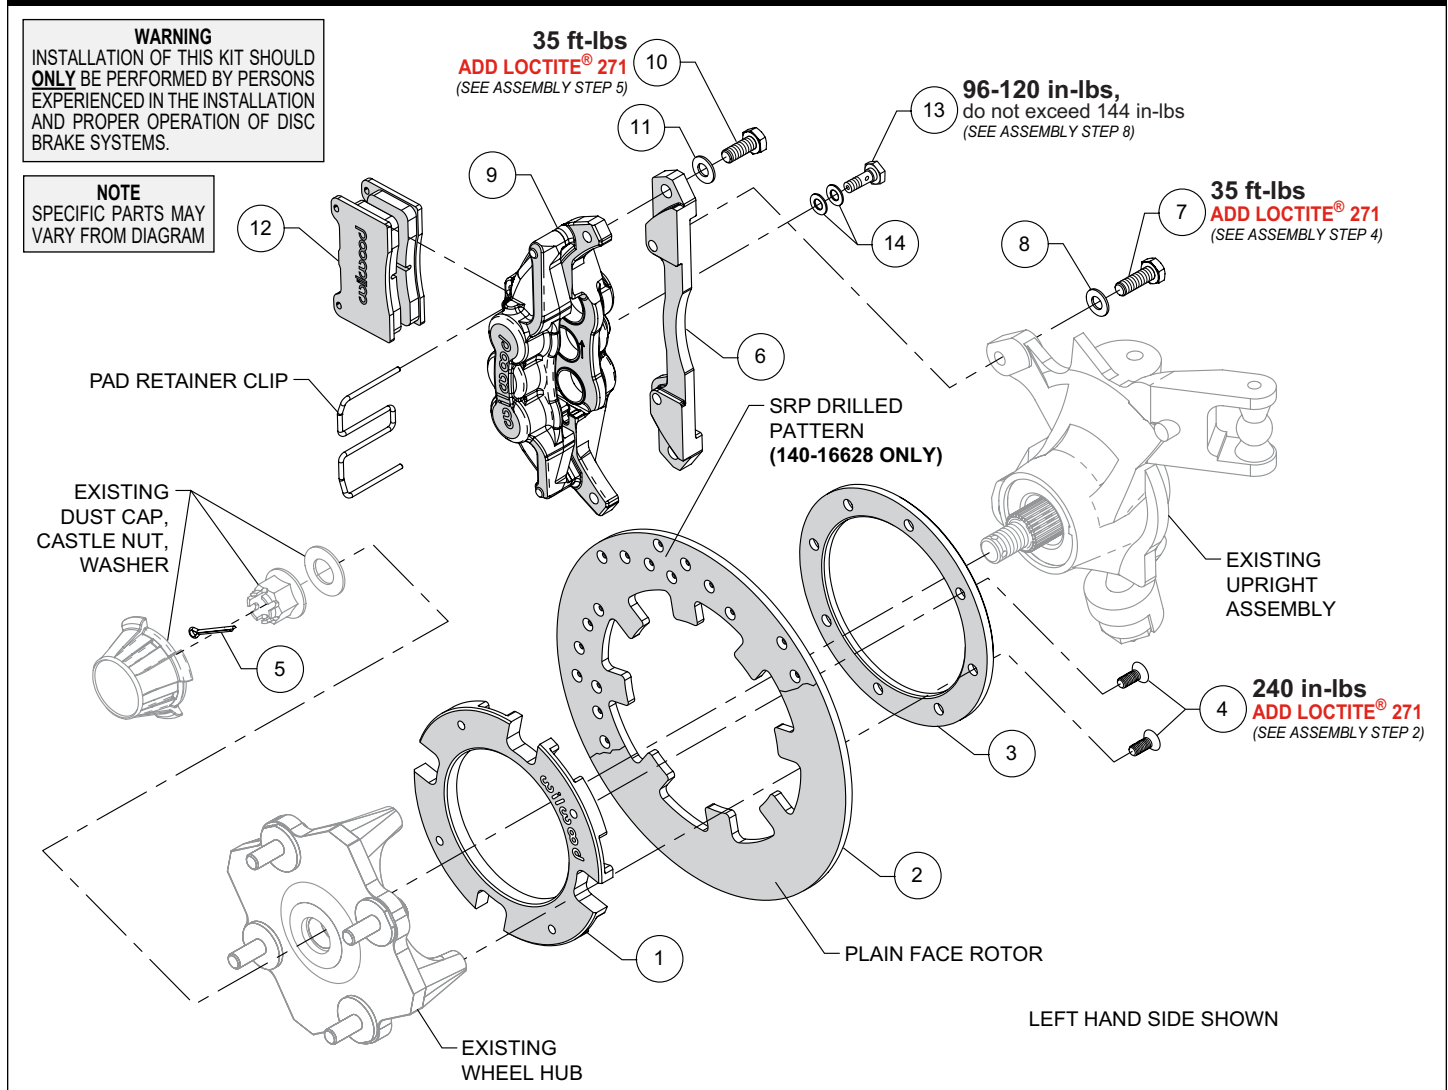

Figure 1. Typical Installation Configuration
**NOTE:** Numbers in parenthesis refer to the parts list and Figure 1 on the preceding pages.
**STEP 1** Place the existing OEM wheel hub face down and position the rotor adapter (1) onto the wheel hub as shown in Figure 1 and Photo 1. **NOTE:** The existing wheel hub must be free of dirt and debris or excessive rotor run out may result.
**STEP 2** Position the rotor (2) onto the rotor adapter (1), making sure the rotor lugs fit into the recesses of the rotor adapter, as shown in Photo 2. Place the adapter ring (3) onto the assembly and attach using bolts (4), Photos 3 and 4. Using an alternating sequence, apply red *Loctite*® 271 to the threads, and torque to value shown in Figure 1.
**STEP 3** Grease the splines and outer snout of the existing wheel hub and slide the wheel hub/rotor assembly onto the axle and attach using the existing OEM washer and castle nut. Tighten to OEM specifications and secure using cotter pin (5), Photo 5. Reinstall the existing dust cap, Photo 6.
**STEP 4** Orient the caliper mounting bracket (6), as shown in Figure 1 and Photo 7. Install using bolts (7) and washers (8). Apply red *Loctite*® 271 to the bolt threads and torque to value shown in Figure 1.
**STEP 5** Secure the caliper (9) to the mounting bracket (6) using bolts (10) and washers (11), as shown in Figure 1 and Photo 8. Apply red *Loctite*® 271 to the threads, and torque to value shown in Figure 1.
**STEP 6** Remove the pad retainer clip from the caliper (9). Insert the brake pads into the caliper with the friction material facing the rotor, as shown in Photo 9. Reinstall the pad retainer clip, Photo 10.
**STEP 8** Attach brake line to caliper. Orient OEM brake line as shown in Photo 11 and connect to caliper using banjo bolt (13) and crush washers (14). Do not use lubricant or thread sealant on banjo bolt (13). Torque to minimum value shown in Figure 1. Check for leakage, increasing torque only to stop leakage without exceeding maximum specification. Replace crush washers and banjo bolt whenever reassembly is required. **Ensure hoses are routed to prevent contact with moving suspension, brake or wheel components.**